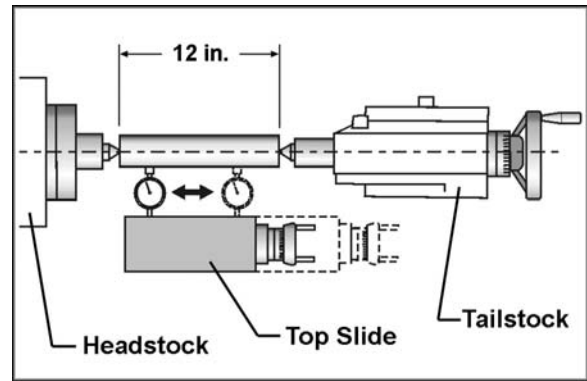

Figure 45 – Tailstock/Headstock alignment
1. Fit a 12” ground, center-drilled, steel bar between centers of the headstock and tailstock (Figure 45).